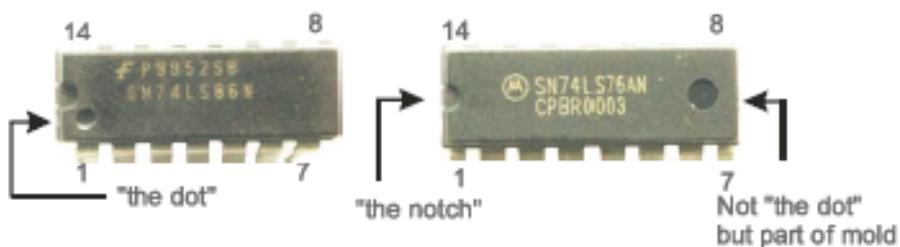

Figure 7: IC numbering (Pin 1 is designated by a dot or a notch and numbering follows counter clockwise direction, there are exceptions to this rule)
- It is important to identify the 1st pin on the ICs. Figure 7 shows the orientation of typical ICs, take note about how to find the pin no. You should refer to the datasheet of the ICs. Figure 2 shows a portion of the datasheet with its internal gate level schematic.